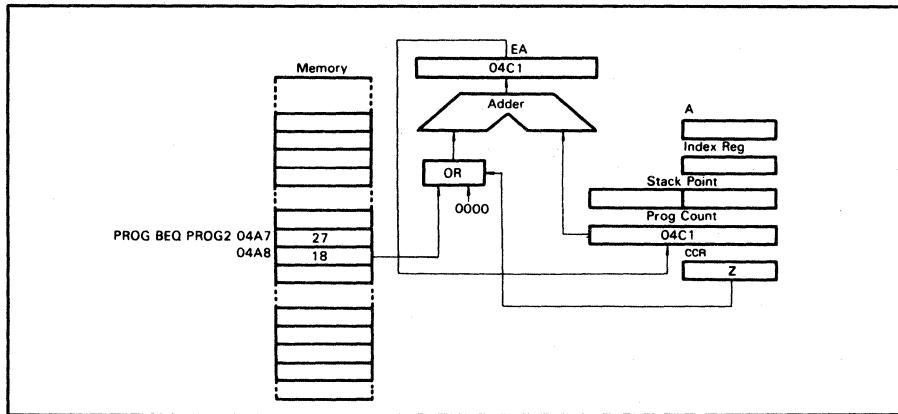

Fig. 1-5 Example of Relative Addressing
(4) Relative
Refer to Fig. 1-5. The relative addressing mode is used with branch instructions only. When a branch occurs, the program counter is loaded with the contents of the byte following the operation code. $EA = (PC) + 2 + Rel.$, where Rel. indicates a signed 8-bit data following the operation code. If no branch occurs, Rel. = 0. When a branch occurs, the program jumps to any byte in the range +129 to -127. A branch instruction requires a length of 2 bytes.
(5) Indexed (No Offset)